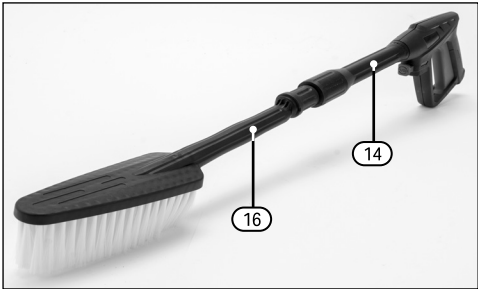

Fig. 14
6.9 Fixed Brush (Fig.14)
- The fixed brush (16) can be used to remove stubborn dirt from a variety of surfaces.
- Connect the bayonet fitting of the brush attachment onto the trigger assembly (14).